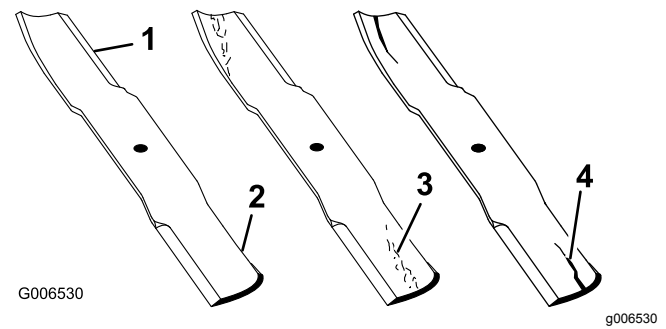

Figure 102
1. Inspect the cutting edges (Figure 102).
4. If you notice any cracks, wear, or a slot forming in this area, immediately install a new blade (Figure 102).